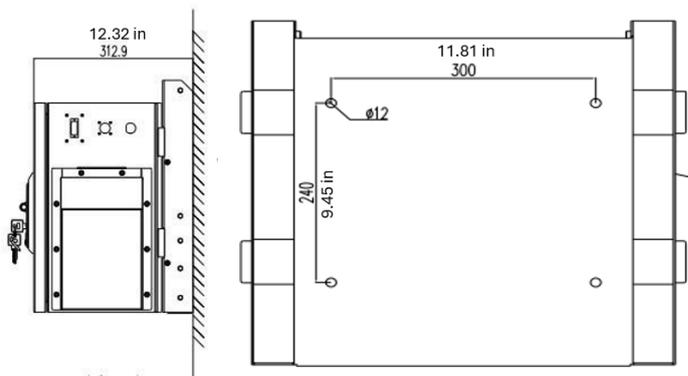

Figure 5.8 Micro Dispenser Mounted on Wall
- Drill holes into the wall based on the dimensions of the bracket shown in figure 5.8. Secure the bracket onto the wall with four M10*60 bolts and torque them down to the specified value.